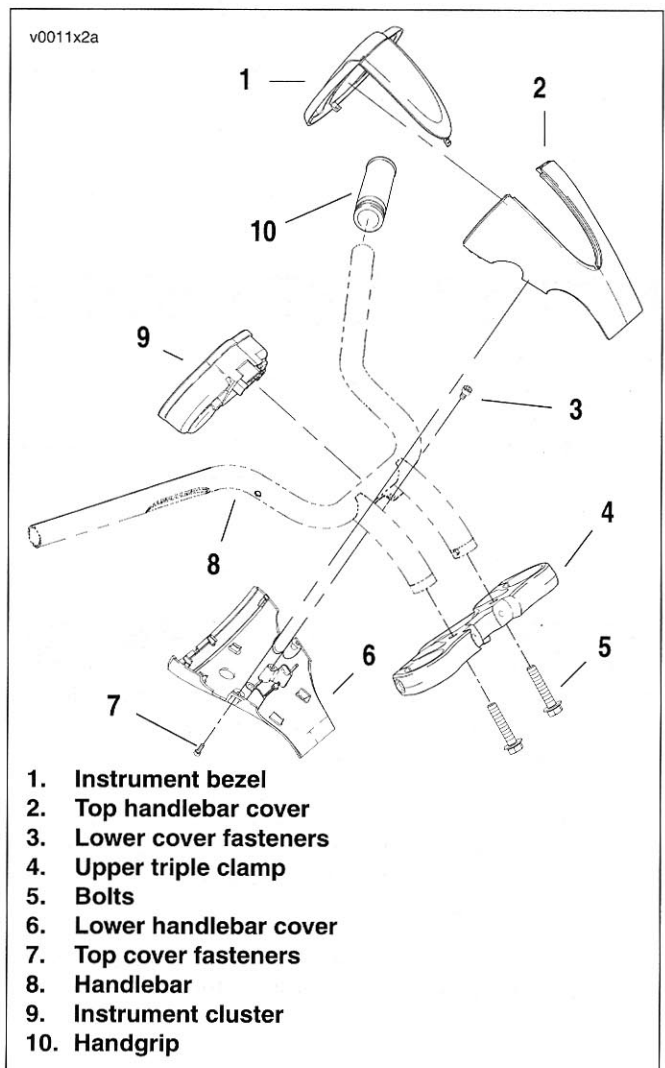

Figure 2-62. Handlebar Assembly
9. See Figure 2-62. Without removing cover, remove fasteners (7) holding top handlebar cover (2) and instrument bezel (1) to lower handlebar cover (6).
See Figure 2-62. Snap and hook at bottom of bezel holding top cover to lower handlebar cover can be damaged if forced during removal or installation.